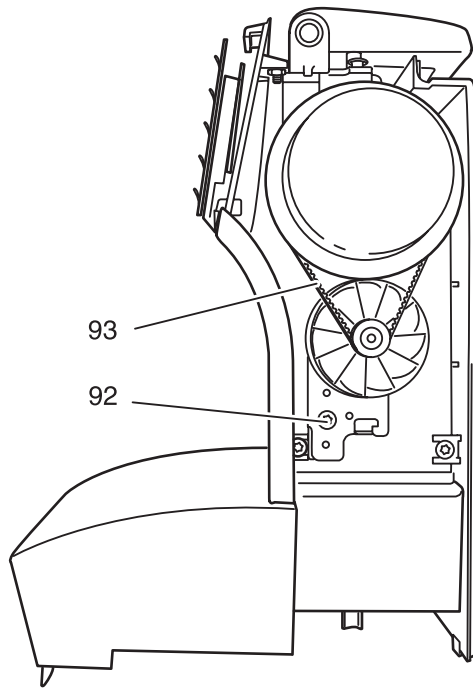

Fig. 82
- Unscrew and remove fastening screw 92 (fig. 82).
- Place flat-toothed belt 93 on the handwheel (fig. 82).
- Insert the motor and place the motor pinion in toothed belt 93 (fig. 82).